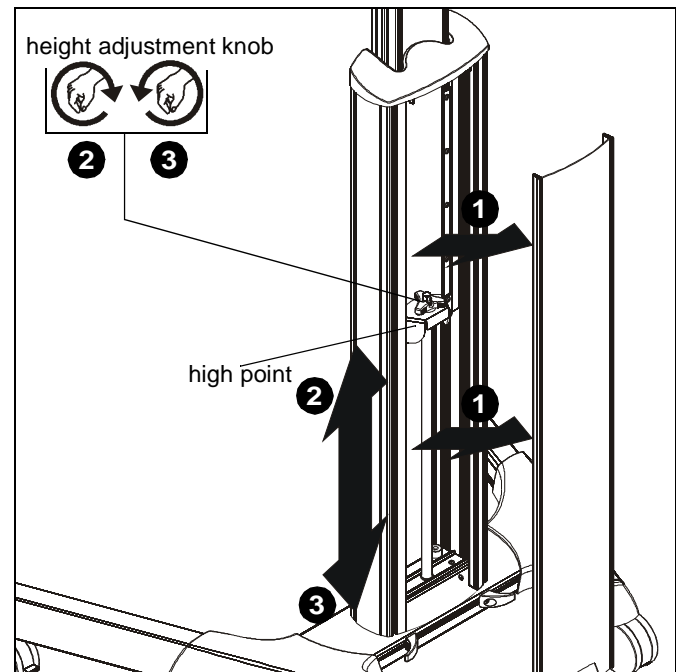

Figure 16
1. Remove cable cover (G) to expose height adjustment knob.
2. Turn height adjustment knob clockwise to raise display. (See Figure 16)
3. Turn height adjustment knob counterclockwise to lower display. (See Figure 16)